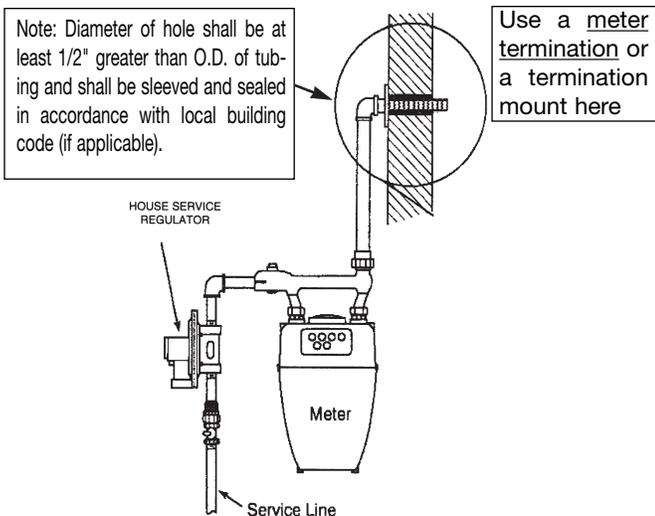

Figure: 4-11
1. Meters which depend on the service and house piping for support shall not be directly connected to the flexible piping. Instead, use a meter termination fitting or termination mount fitting with steel pipe for the outdoor portion of the connection. For mounting of meters, all fastener locations should be used when installing the flange or mounting plate. (Figure: 4-11 and 4-12).